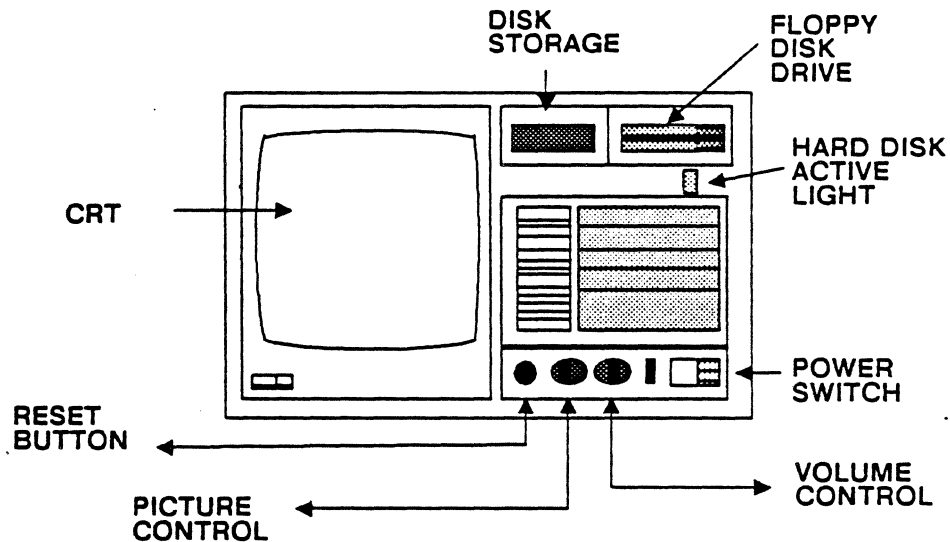

Figure 1.3: Chameleon 32 (Front View--Open)
7. Press the eject button below the floppy disk drive to remove the yellow drive protector from the floppy disk drive (Figure 1.3). Place it in the disk storage compartment for future use.
8. Power up the Chameleon 32. The power switch is on the bottom right of the front panel (Figure 1.3). When the power is on, the switch is illuminated.